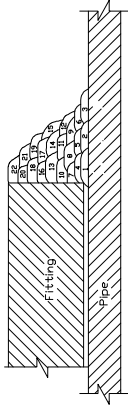

Figure 2 Weld bead deposition sequence
- The welds bead deposition sequence shall be welded as shown in passes sequence of Figure 2